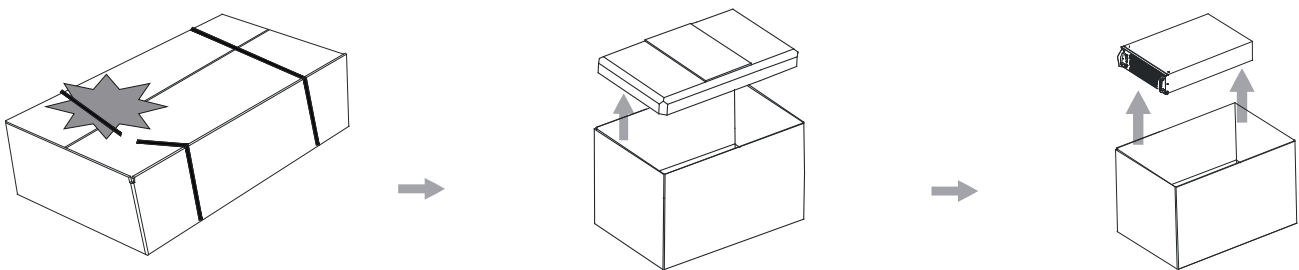

Figure 3-8. Instruction for removing the module packaging
1. Cut off the packing strap and open the carton (see Figure 3-8);
2. Lift the foam on the UPS module upward to remove them (see Figure 3-8);
3. Take out the UPS module (see Figure 3-8).